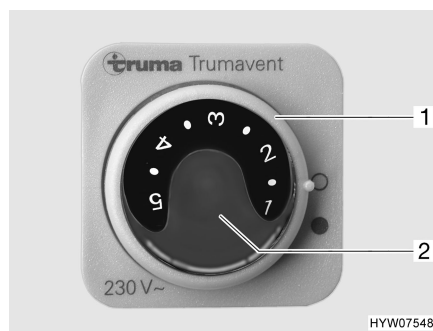

Fig. 75 Operating switch for circulation fan (240 V)
- Turn the rotary switch (Fig. 75,1) to "●".
- Turn the knob (Fig. 75,2) to the required position of the circulation fan.
- Turn the rotary switch (Fig. 75,1) to "○".